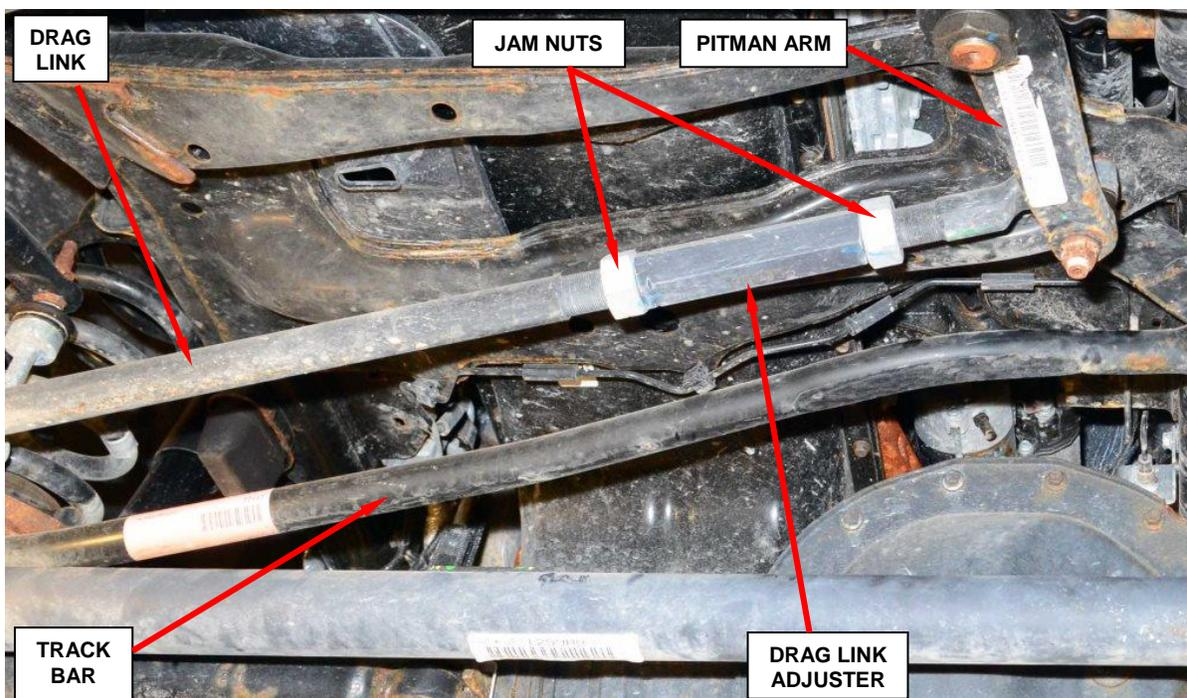

Figure 32 – Drag Link Adjuster and Jam Nuts
75. Loosen the drag link adjuster jam nuts on the drag link and adjust the drag link length as required (Figure 32).